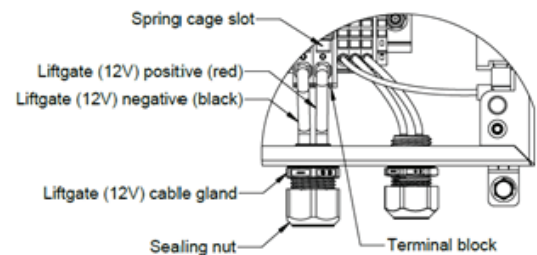

FIGURE 8
13. Repeat steps 7-12 for the liftgate battery harness, but with wires inserted through middle cable gland, positive wire (red) inserted into right terminal block and negative wire (black) inserted into left terminal block (Figure 8), and cable gland and sealing nut restrained and tightened with 1-1/16" wrenches.